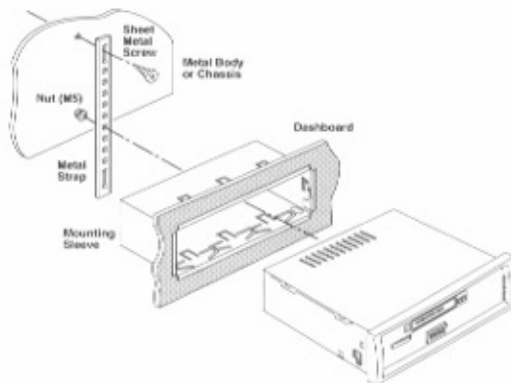

Figure 11. Securing the Rear of Mounting Sleeve.
6. If you were able to secure the unit properly in steps 4 and 5 above, go to step 7. If not, secure the rear of the unit to your car by fastening the metal strap (supplied) as shown in Figure 11.